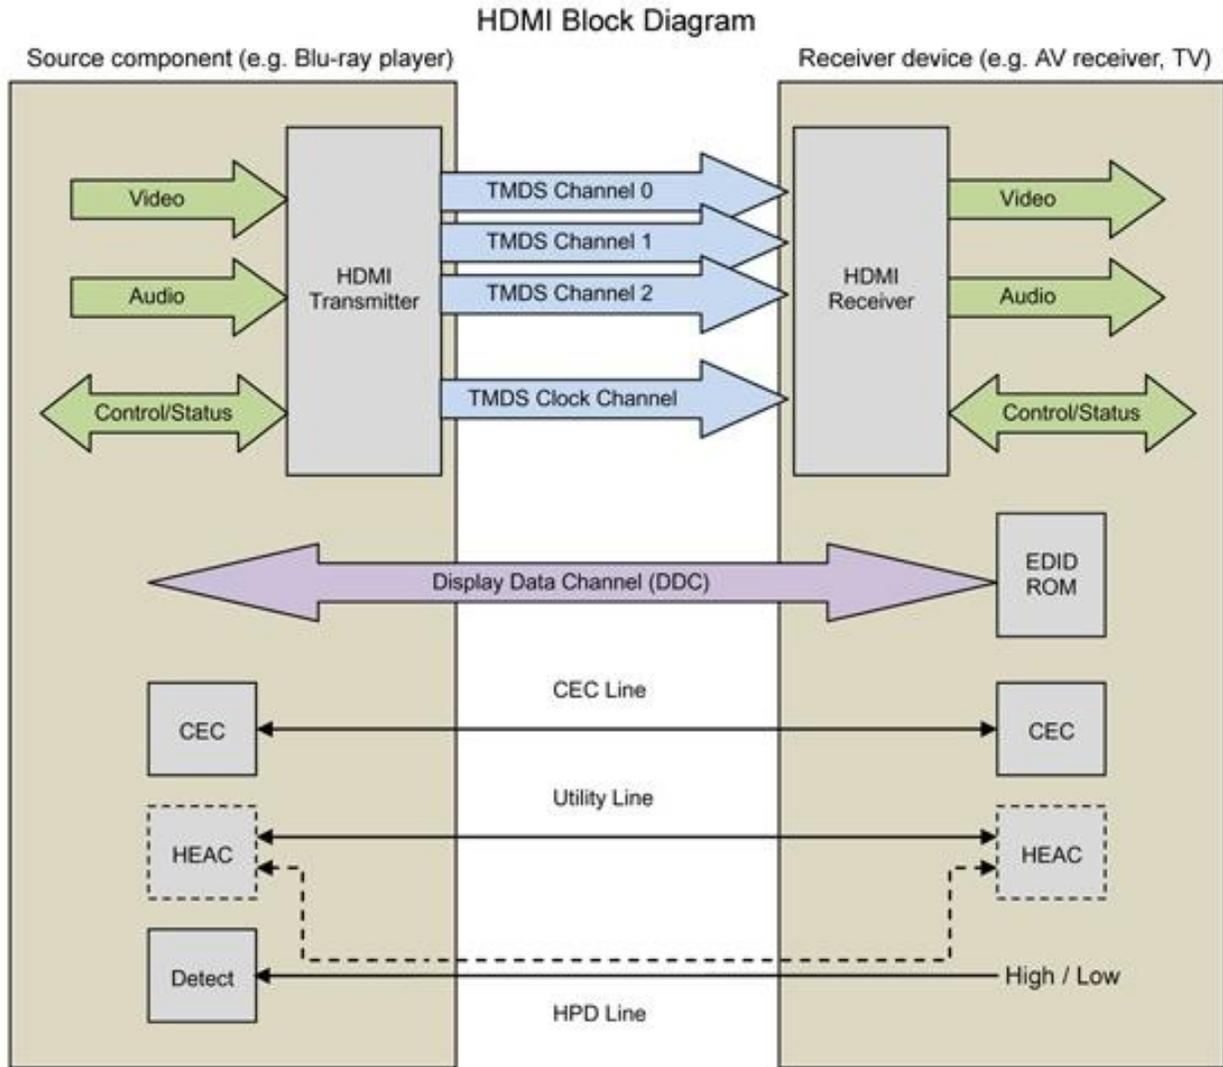
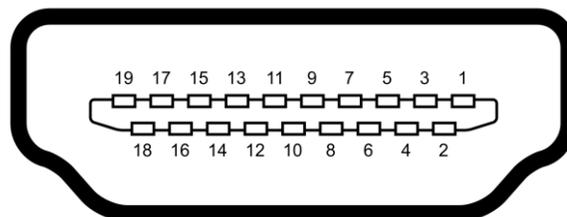

Figure 2 HDMI Block Diagram
Figure 3 HDMI connector PINOUT
There are several digital video interface standards, including DVI, DisplayPort (DP), HDMI (High Definition Media Interface), HDBase-T, etc. HDMI is the most common digital video transmission protocol and is incorporated into almost every TV set today. Billions of HDMI ports are already available for use in the field. HDMI includes three high-speed TMDS (Transition-Minimized Differential Signaling) data channels for video and audio transmission, one TMDS clock, and a few low speed control channels, as shown in Figure 2. Control channels prepare the communications between a video player (source) and a video display (sink) to set the transmission guidelines before the video transmission. It also authenticates if the video to be played is a legitimate copy. An HDMI sink interface draws power from the source. Figure 3 shows the HDMI connector pinout, and the corresponding pin assignment is shown in Table 2 for HDMI Type A, Type C and Type D connectors.
Cosemi's OptoHD™ hybrid optical/copper cable is the technology advancement that addresses higher data rate and longer distance video transmission, while being compatible with existing devices on the market. The implementation is transparent and requires no new learning or behavior changes by the users. In this technology, high-speed data and clock signals are transmitted over four multimode optical fibers supporting up to 100 m distances up to the HDMI2.0 limit. Low threshold, high speed VCSELs at the source consume power well within the HDMI standard limit and convert electrical data into optical data for transmission over optical fibers. Photodiode receivers convert optical data back into electrical data to send to the sink devices. The receivers require no bias power from either source or sink devices. Copper wires are preserved for the low-speed control signals to facilitate the communications between source and sink just like a regular copper HDMI cable. The copper wire for power from the source to the sink has also been retained. Therefore, OptoHD™ addresses high-speed data with fibers and low-speed control and power distribution with copper wires. The HDMI block diagram shown in Figure 2 remains valid without any changes.